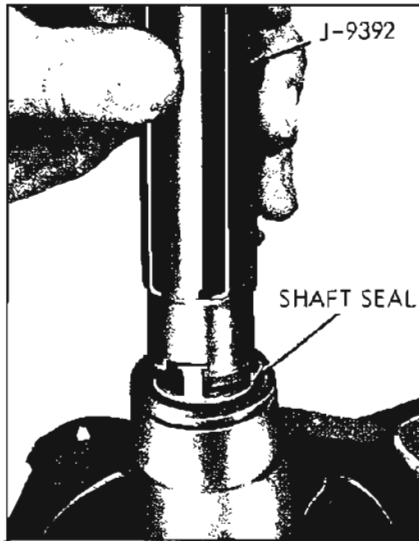

Figure 11-55—Removing or Installing Shaft Seal
gently but firmly, pull tool straight out (see Figure 11-55).
10. Generously coat shaft seal with 525 viscosity oil, mount shaft seal on Seal Remover and Installer (J-9392) and insert in hub of front head (see Figure 11-55).